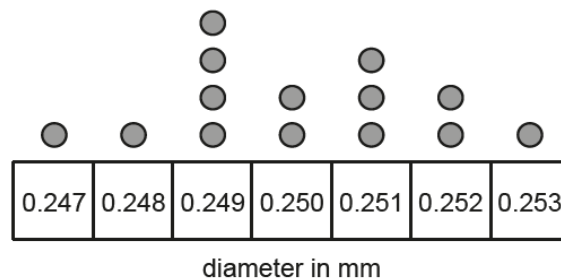

Fig. 4.1
- 4 This question is about an experiment to determine the Young modulus of a copper wire. The diameter  $D$  of the wire was measured using a micrometer screw gauge in several places along the length of the wire. The values obtained are shown in the dot-plot shown in Fig. 4.1. Each dot represents one reading.